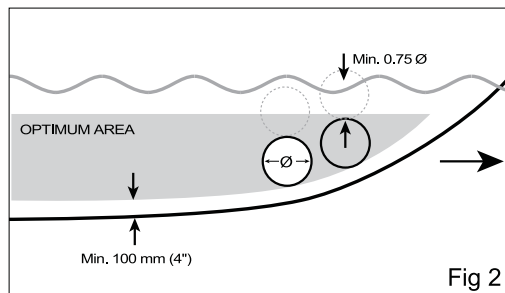

Fig 2
- 1 x Ø (0.75 x Ø minimum) below the waterline to prevent air being sucked into the tunnel. (Fig. 2). Ø=Tunnel Diameter.